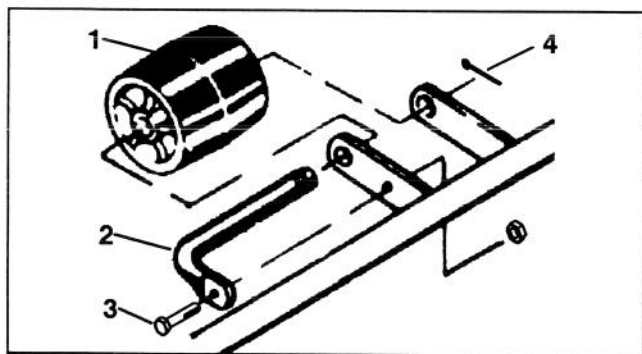
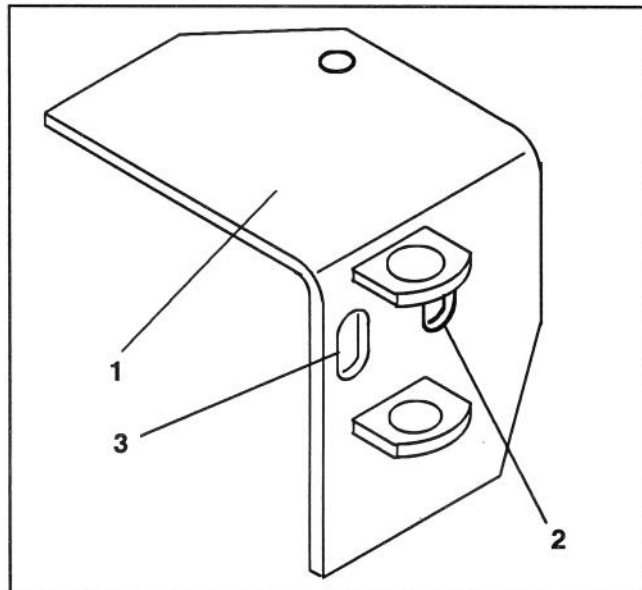

Figure 3
Figure 9
7. Install each roller to gage wheel shaft with a roller shaft, 1/4 - 20 x .75" lg. capscrew, 1/4 - 20 lock nut and a 3/16 x 1" lg. cotter pin, as shown in figure 3.
17. Locate pivot support (Fig. 9) in Easy Twin Bagger Loose Parts. (Refer to "Pre-Delivery Dealer Check List", Fig. 3.)
20. Using the inner slotted hole in front of pivot support (Fig. 9), locate, center punch and drill a 13/32" (10 mm) dia. hole in front of mower deck.